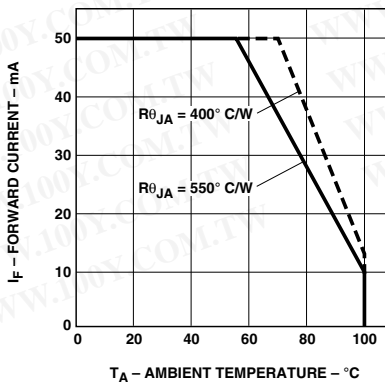

Figure 6. Maximum forward DC current vs. ambient temperature. Derating based on  $T_{JMAX} = 110^\circ\text{C}$ .
- Derate linearly as shown in Figure 6.